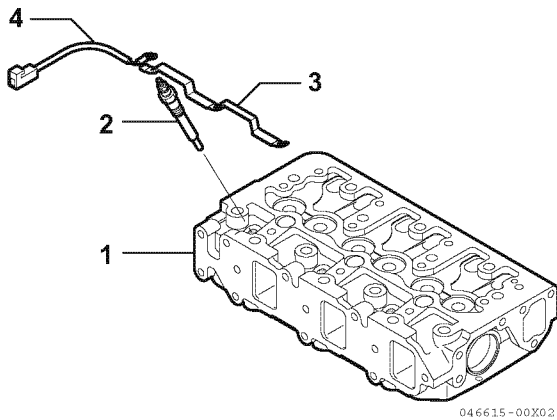

Figure 6-34
1. Attach the glow plug (2, **Figure 6-34**) to the cylinder head (1, **Figure 6-34**), and tighten with a designated torque. Attach the glow plug connector (3, **Figure 6-34**) and the glow plug harness (4, **Figure 6-34**) to the top part of the glow plug, and tighten with a designated torque. See *Special Torque Chart* on page 6-10.